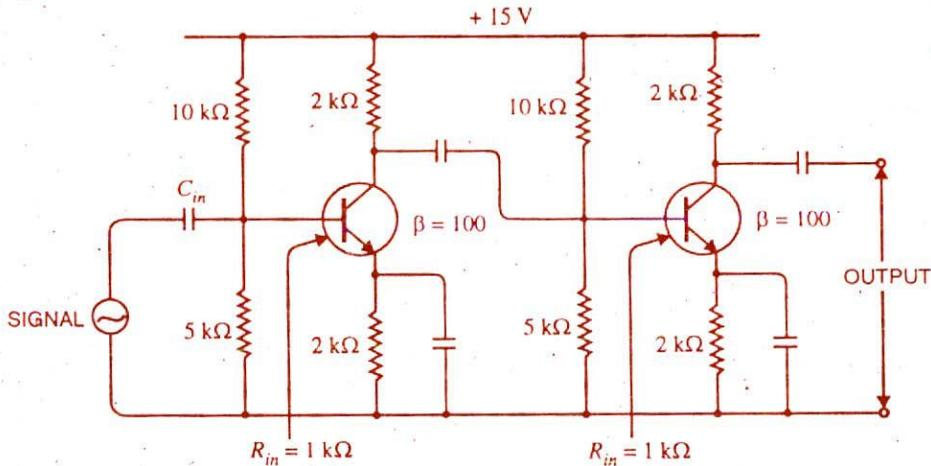

Fig. 13.9
**Example 13.11.** Fig. 13.9 shows two-stage RC coupled amplifier. If the input resistance  $R_{in}$  of each stage is  $1\text{ k}\Omega$ , find : (i) voltage gain of first stage (ii) voltage gain of second stage (iii) total voltage gain.